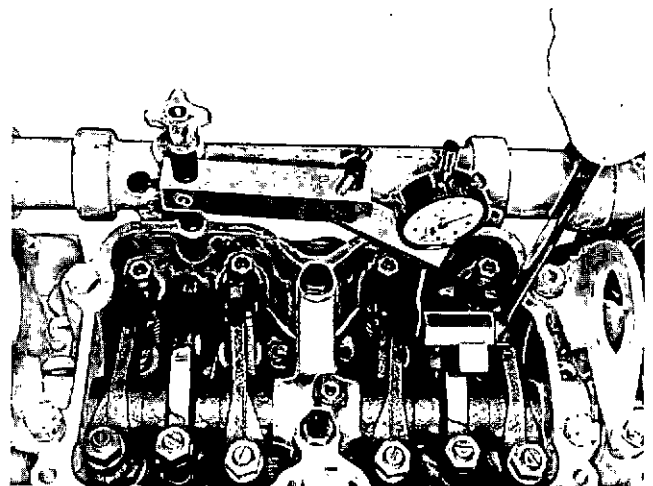

Fig. 2-45 (N114232) Bottoming injector plunger in cup, N-Series
3. Using ST-1193 Rocker Lever Actuator, Fig. 2-45, or equivalent, bar lever toward injector until plunger is bottomed to squeeze oil film from cup. Allow injector plunger to rise, bottom again, set indicator at zero (0). Check extension contact with plunger top.